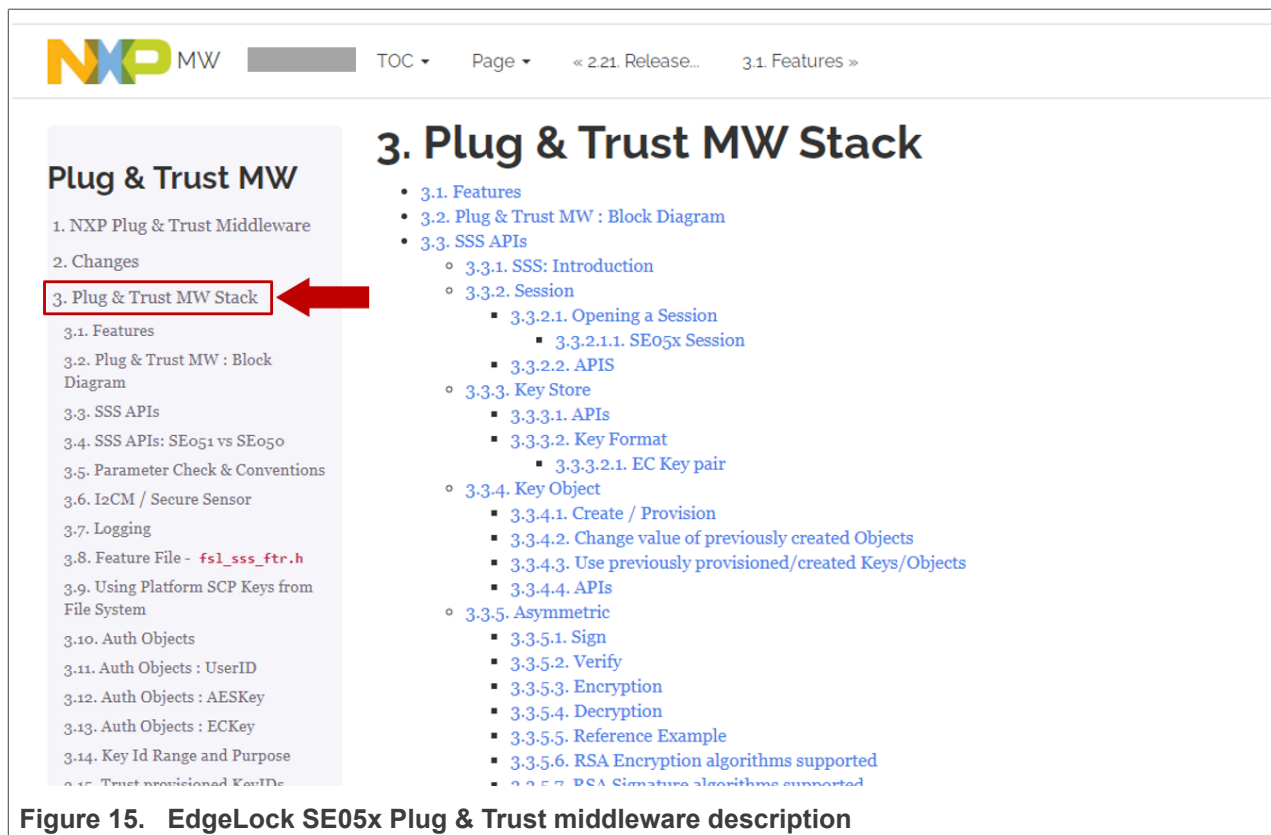

Figure 15. EdgeLock SE05x Plug & Trust middleware description
6. From the same browser, you can navigate through the different document sections using the left-hand side menu or the hyper-linked table of contents shown in the center. For instance, to check the EdgeLock SE05x Plug & Trust middleware description, click on Section 3. Plug & Trust MW Stack on the left hand side menu as shown in Figure 15: